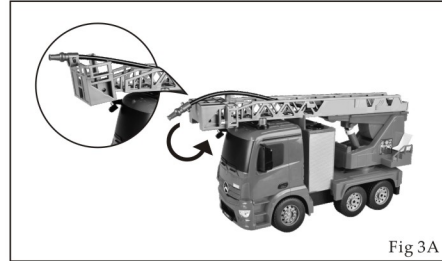

Fig 3A
1. Open the colorful box, unpack the blister packing in the upper left corner of the remote control car, take the car out, rotate the fountain, and install the sprinkler head. (Fig 3A)